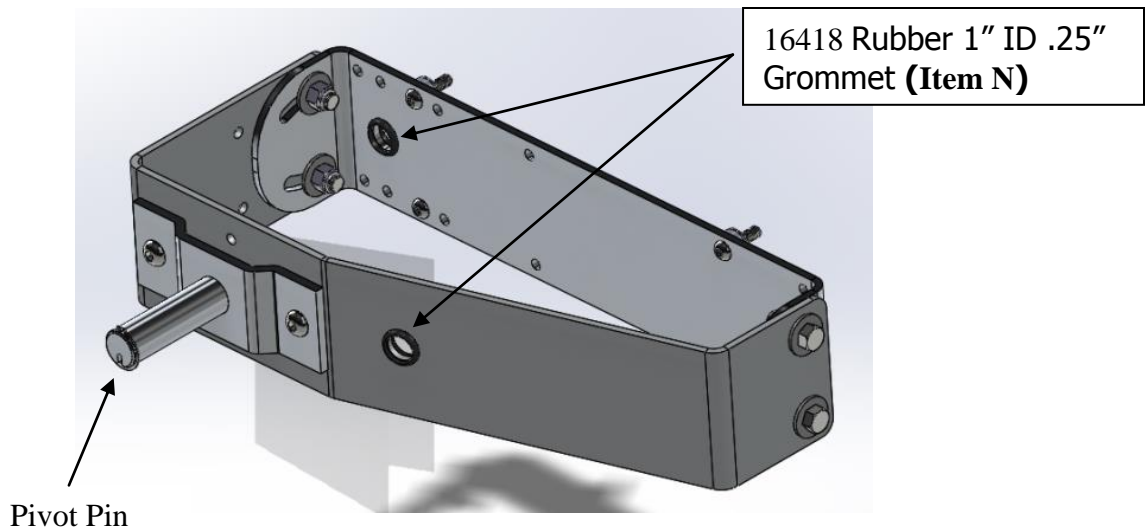

Figure 5
6. Mount the pivot pins that are in the arms to the Outer bracket through the provided holes in the face of the outer bracket as shown in figure 5 below. Note the groove in the pin should point down.
8. At the trailer nose side, insert a 16418 Rubber 1" ID .25" groove grommet (**Item N**) into both the outer and inner 15/16" bracket holes. Refer to figure 5